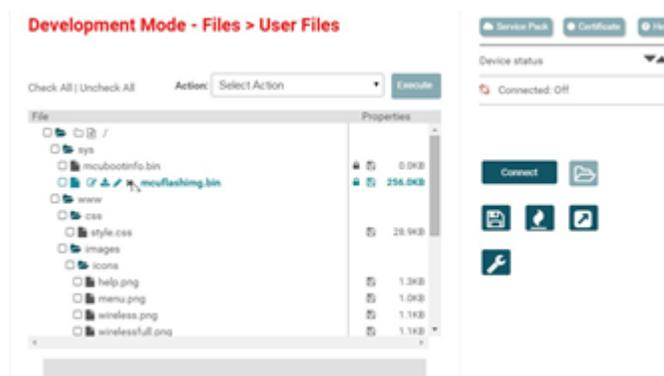

Figure 39. Deleting Application Binary
7. Browse and see all files under Files → User Files on the left-side navigation tree. It is good practice if mcuimg.bin for the CC3220S device or mcuflashing.bin for the CC3220SF device is deleted from the project (a backup resides in the original zipped project). This step ensures that the programmed application binary is not executed and that the code downloaded through CCS is executed (see Figure 39).